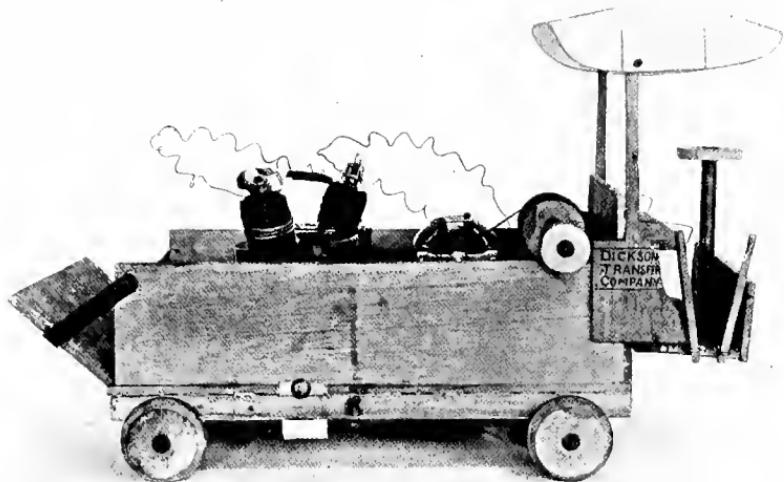
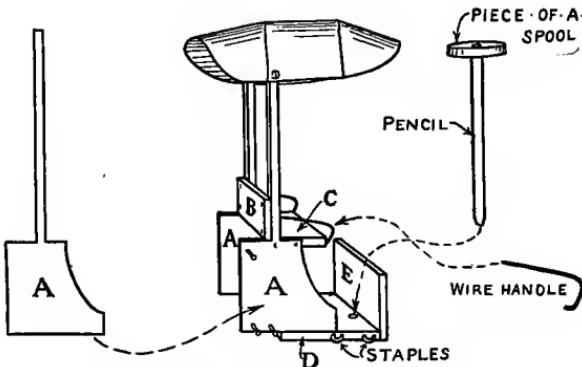

FIG. 286.—A TOY ELECTRIC MOTOR TRUCK.
FIG. 293.—Details of Seat and Canopy-Top.
**The Toy Electric Motor Truck** shown in Fig. 286 is of light construction, the axle bearings produce very little
The Seat and Canopy-Top details are shown in Fig. 293. Make these in about the proportion to the cigar-box shown in Fig. 286. Fasten the seat to the edge of the seat-back *B*
lower end of the pencil through a hole in the bottom of *D* (Fig. 293). For